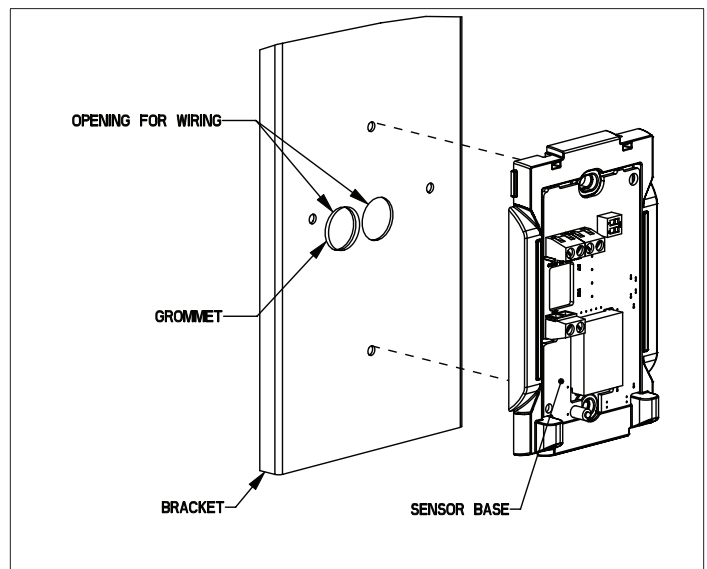

Figure 1. Sensor Mounting Base
3. Align baseplate on bracket as shown in figure 1 and secure with two thread forming screws.